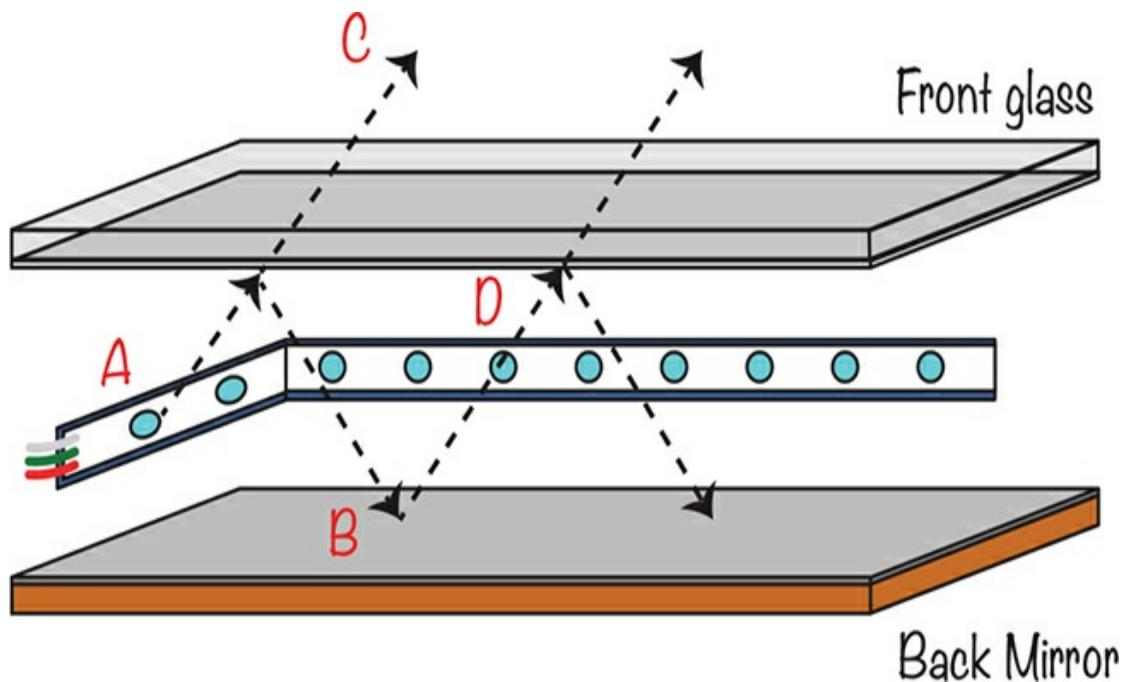

Figure 3-19: Light bouncing around in the infinity mirror project
Figure 3-19 shows how the infinity mirror works.
Light from the LEDs heads off in all directions (A in Figure 3-19). Some of that light travels up, toward the front of the frame. The mirror film reflects some—but not all—of this light back down to the mirror at the back of the frame (B). The rest of the light escapes from the frame (C), and some of it finds its way to the back of your eye, where it forms an image.